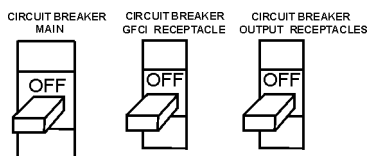

Figure 32. Main, GFCI and Load Circuit Breakers
1. Be sure to disconnect the electrical load and switch the **main**, **load** and **G.F.C.I.** circuit breakers (Figure 32) to the "OFF" position prior to starting the engine.